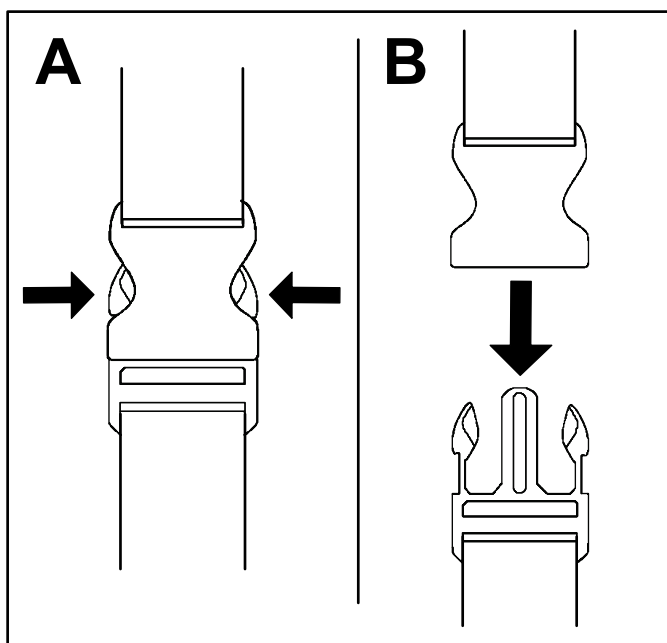

Figure 10
1. Press in on the sides of the buckle (A of Figure 10).
2. Allow the buckle to disconnect (B of Figure 10).